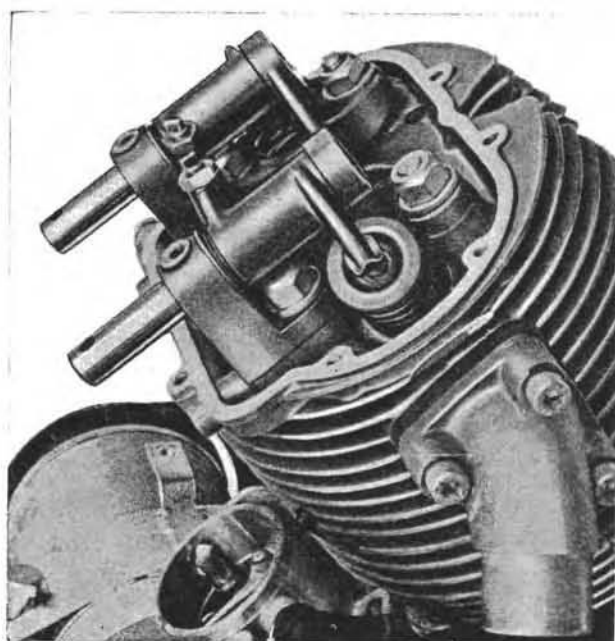

Fig. 12
- rocker arm spindles, rocker arms, rocker arm springs and washers (see Fig. 12). Remove tappet adjusting screws after loosening nuts.